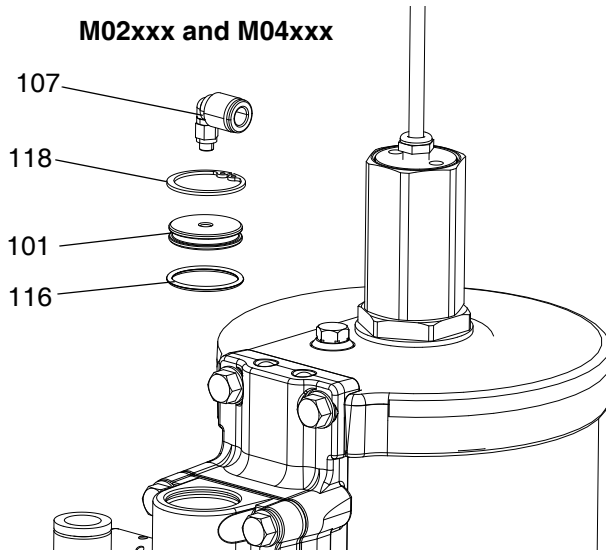
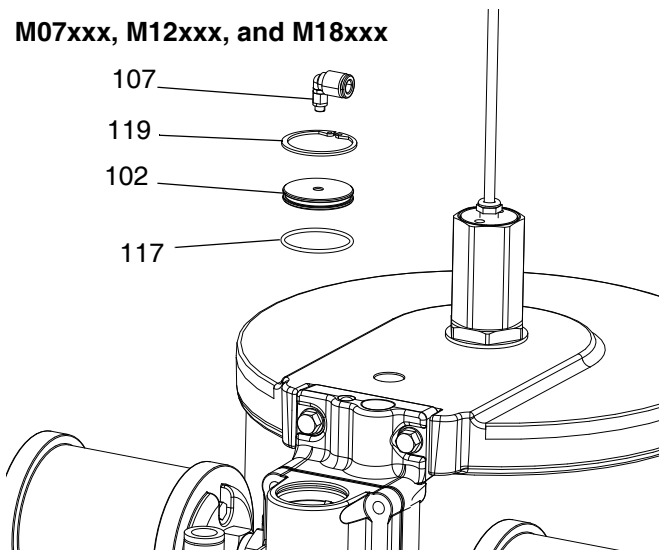

FIG. 12: Install Top Air Valve Plug
FIG. 13: Install Top Air Valve Plug
- Install the top o-ring (116 or 117), air valve plug (101 or 102), snap ring (118 or 119), and elbow fitting (107) in the top of the valve body. Apply a liberal amount of the supplied lubricant to the o-rings before installation. Refer to FIG. 12 and FIG. 13.